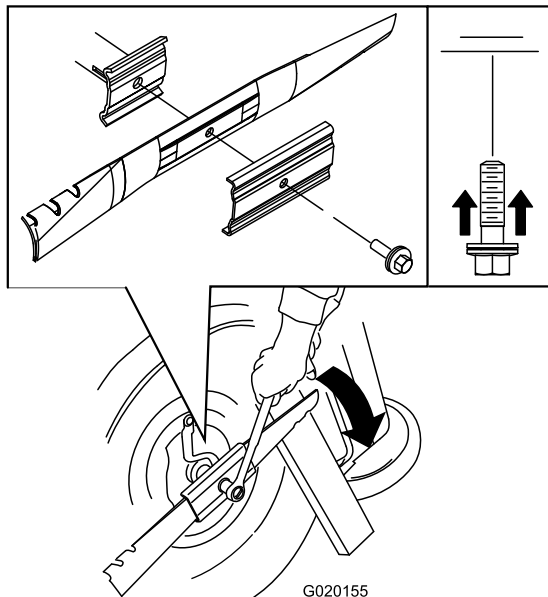

Figure 18
5. Install the new blade (turn the blade bolt clockwise) and all mounting hardware (Figure 18).